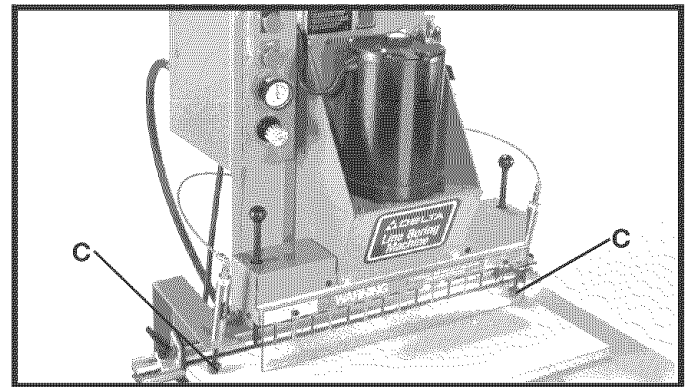

Fig. 68
3. Figure 68 illustrates the completed boring operation with the boring head in the raised position. Note that the two air clamp plungers (C) are still in the down position clamping the workpiece against the table. **NOTE:** The motor cannot be turned on until the reset button is pressed as explained in **STEP 4**.